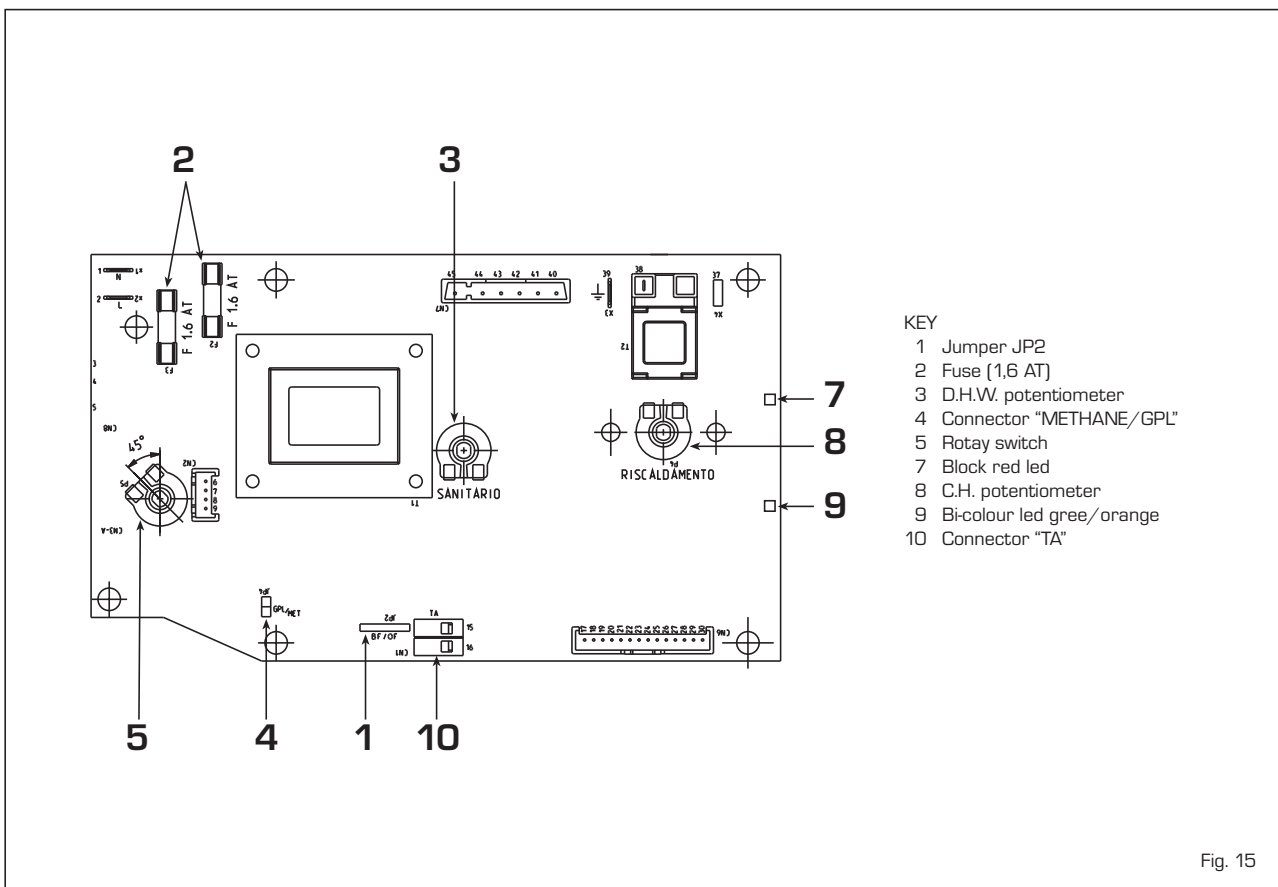

Fig. 15
The electronic board is equipped with the following devices (fig. 15):
- Disassemble the burner manifold (3).
- Replace the main nozzles (6) supplied in a kit, inserting the copper washer (4). Use a $\varnothing 7$ spanner to perform this operation.
- Remove the "METANO/GPL" connector link on the card and set it in the position corresponding to the gas to be used (4 fig. 15).